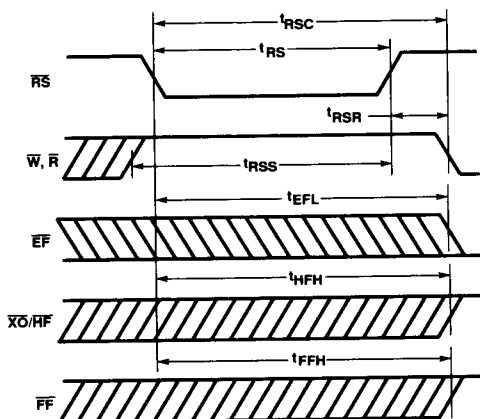

Figure 2. Reset Timing
Upon power up, the FIFO must be initialized with a Reset cycle. (See Figure 2.) The states of XI and FL are used during the reset cycle to determine the FIFO's mode of operation, as shown in Tables 1 and 2. For a valid reset cycle to occur, both the Read (R) and Write (W) signals must be HIGH t_{RSS} prior to and t_{RSR} after the rising edge of Reset (RS). The reset cycle initializes the FIFO to an empty condition, signified by the Empty Flag (EF) being LOW, active, and both the Half-Full (HF) and Full Flag (FF) being HIGH, inactive.